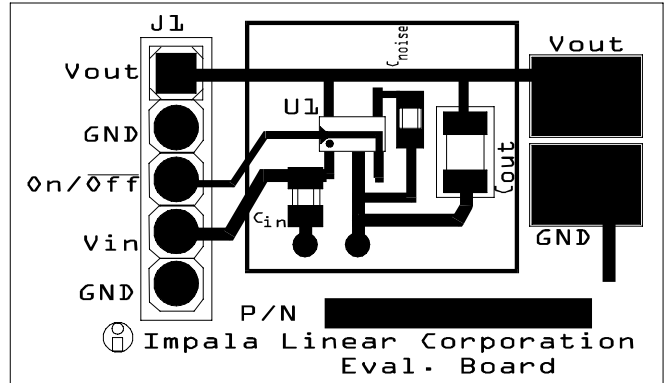

Figure 9: Recommended application circuit layout ( not drawn to scale)
4. Maintain a separate “LOCAL GROUND” remote from the “GROUND PLANE” to ensure a quiet ground near the LDO. Figure 9 shows how this circuit can be translated into a PCB layout.